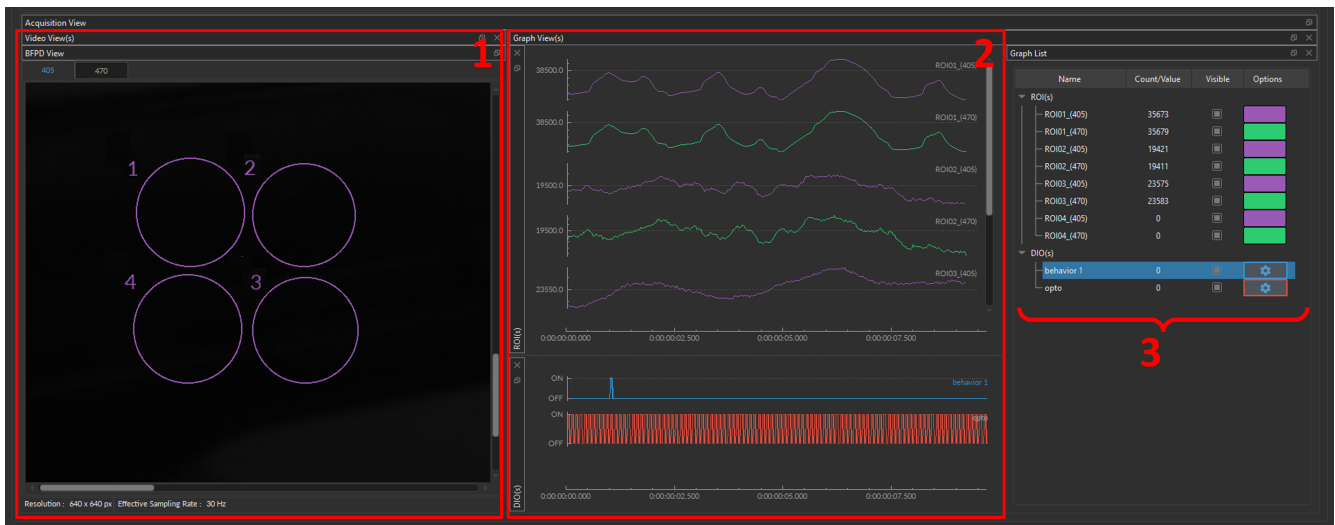

Figure 10.39: Acquisition View
The **Acquisition View** (Fig. 10.39) is split into separate divisions, each of which visualizes different types of data in the following sections:
1. The **BFPD View** (Fig. 10.39, 1) - Section 10.5.1;
2. The **Graph View** (Fig. 10.39, 2) - Section 10.5.2;
3. The **Graph List** (Fig. 10.39, 3) - Section 10.5.3.